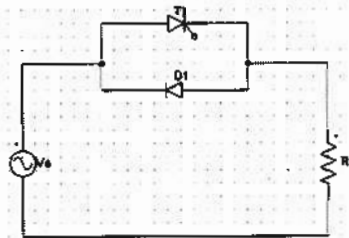

Figure 1. Voltage controller circuit for question 8.
8. In the voltage controller circuit of figure 1,